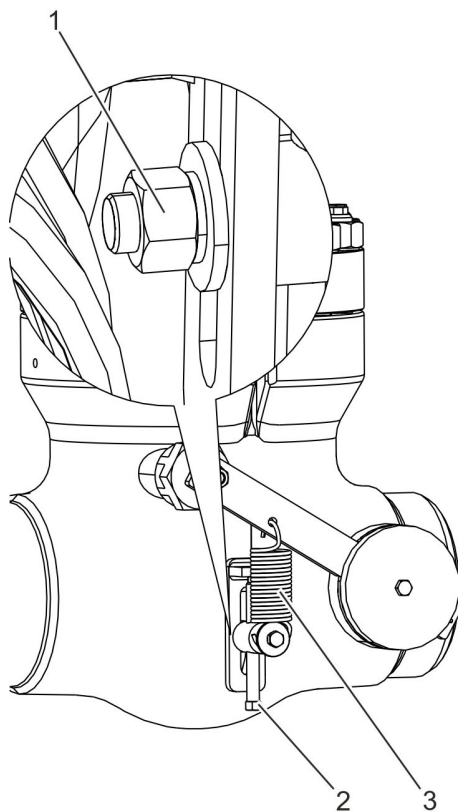

Fig. 37: Detaching the spring
1. → Carefully undo the retaining pin's fastening nut (Fig. 37/1).
Do not remove the fastening nut (Fig. 37/1) from the retaining pin.
2. → Undo the adjusting screw (Fig. 37/2) until the spring (Fig. 37/3) tension is released completely.